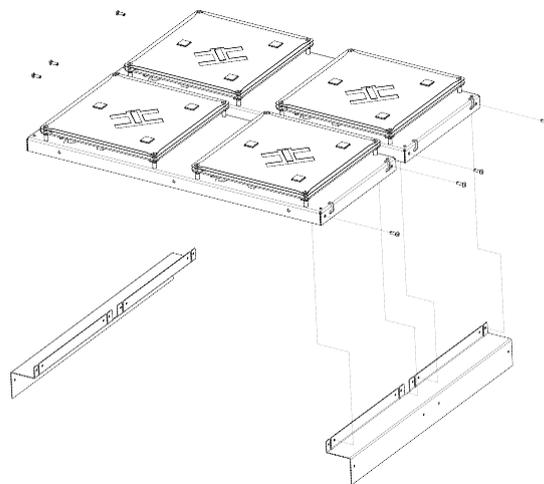

Figure 9
Remove control panel as detailed in Section 3.1. Remove hob assembly as detailed in Section 3.6. Release 4 fixings from sides of appropriate aluminium coil carrier plate as detailed in Figure 9.
Remove fixings at top corners (E) of faulty coil assembly. Take care to catch spacer and spring as screw is released. (Refer to Figure 9)